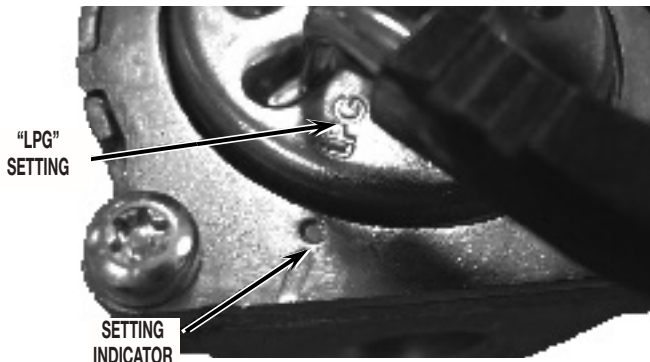

FIGURE 8
- Rotate cover dial 25 degrees counterclockwise, lining up "LPG" marking with the indicator on the gas valve. See Figure 8.